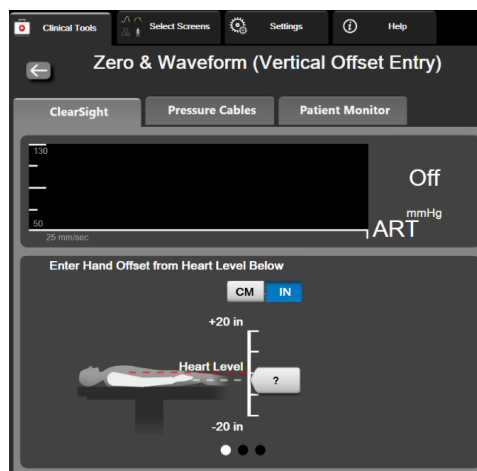

Figure 11-6 Zero & Waveform screen – Vertical Offset Entry
- 3 The **Zero & Waveform** screen in this mode (shown in figure 11-6) will depict a vertical scale bar to represent the offset of the hand relative to the heart; the heart level is set at zero. A positive offset signifies a patient position where the hand is above the heart. Select the units of the scale bar: **CM** or **IN**.